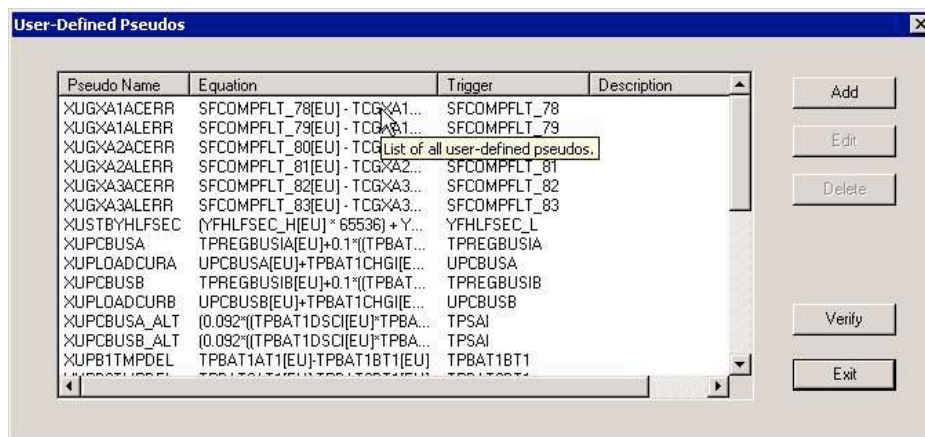

Figure 94: User Defined Pseudos Management Screen
- Click ‘Add’ on the User Defined Pseudos management screen (see *Figure 94*).
- Highlight a pseudo-mnemonic from the displayed list and click ‘Edit’ on the User Defined Pseudos management screen (see *Figure 94*).